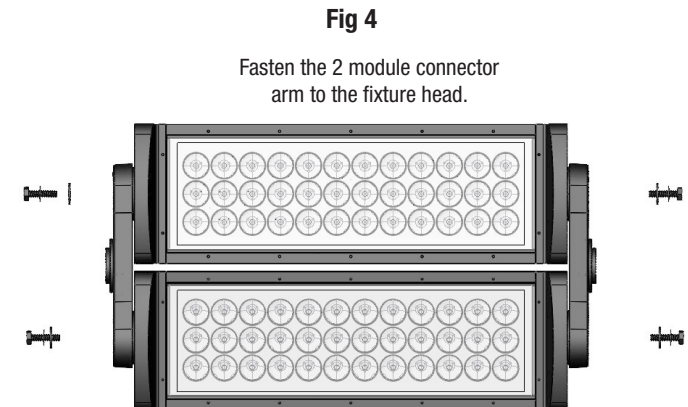

Fig 4
- 5) To complete the assembly of the head and U bracket arm, rotate the fixture to point in the desired direction using the arrow on the side of the Fixture Head to consistently aim each fixture being installed. **Fig 4**
- 5) Align the holes on the connector arm with the center holes on the each side of the fixtures and fasten them together using the (4) Bolts with Loctite applied. Tighten the Bolts to a torque value of 30 ft-lb. **Fig 4**